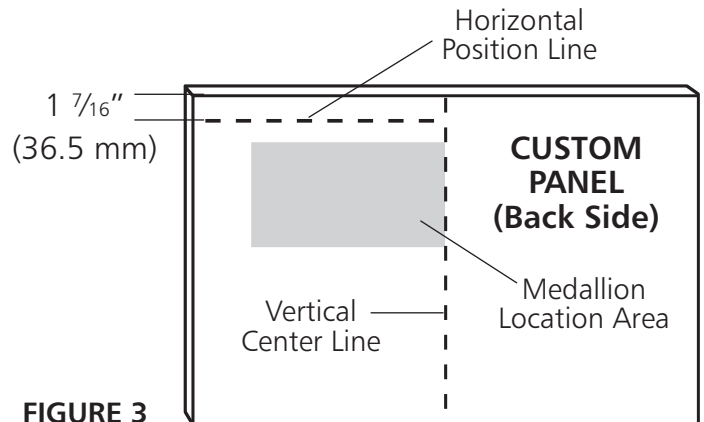

FIGURE 3
- 7) On the backside of the custom door panel, measure and mark the vertical center line and horizontal position line (See figure 3).